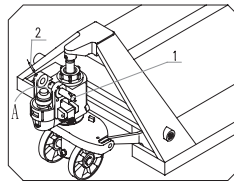

Fig.1
See figure 1. Pull out the pin roll (1). Insert the hand grip (3) to place (A). Couple the hand grip (3) and pump body (5) with pin roll (1).